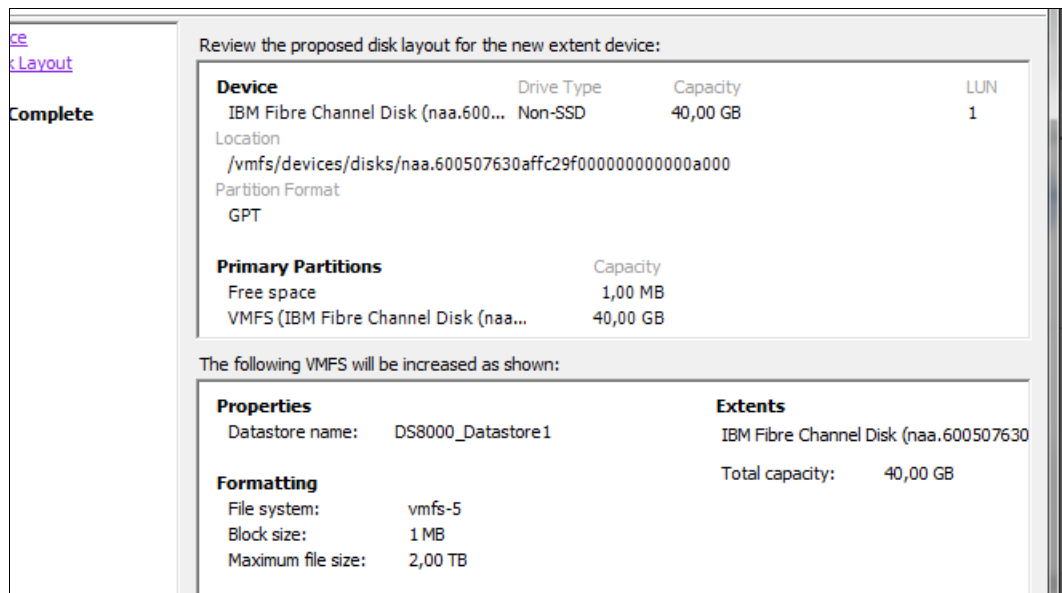

Figure 7-24 Summary page
- g. Review the summary page as in Figure 7-24 and click **Finish**.